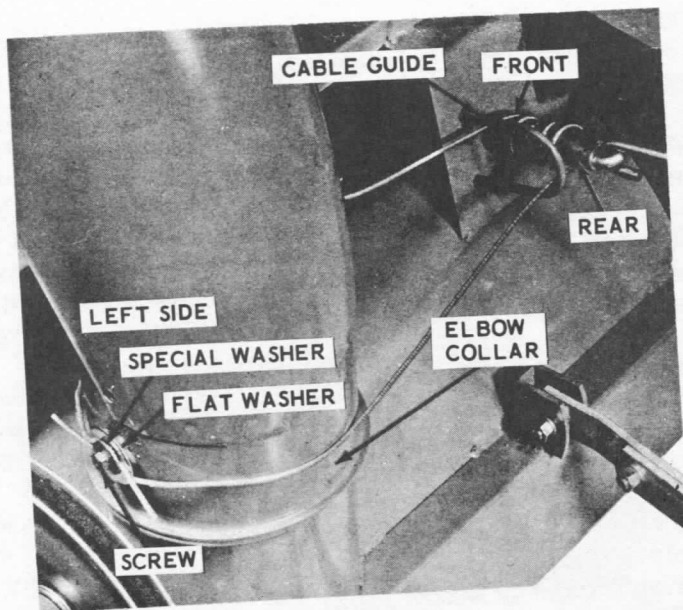

Figure 16
10. Loosen screw on left side of elbow collar. Remove tape from around elbow drive cable and make certain both ends of cable are through cable guide. The end of cable that comes off front of drive tube goes around front of elbow collar and remaining end goes around rear. See Figure 16.